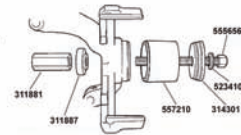

Figure 2. Bearing Removal
2. Assemble the tool components as shown in Figure 2.